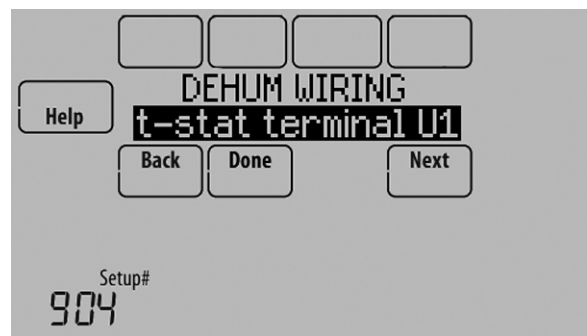

Fig. 219.
- Select the terminals wired to the Dehumidifier. See Fig. 219.